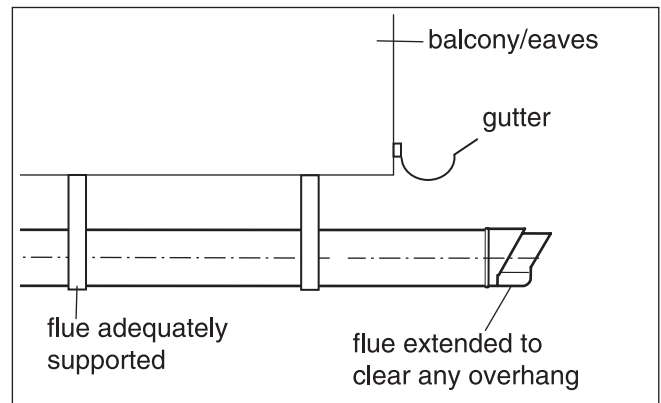

Fig. 3.7 Flue termination under balcony/eaves
- Dimensions B, C and D: These clearances may be reduced to 25 mm without affecting the performance of the boiler. In order to ensure that the condensate plume does not affect adjacent surfaces the terminal should be extended as shown in Fig. 3.7.